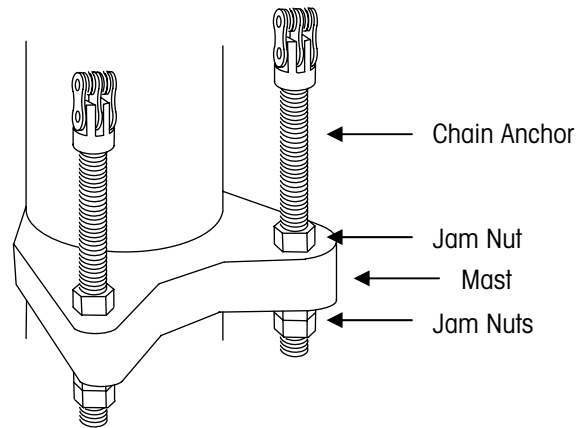

Figure 2-13: Chain Anchor Assembly
14. Remove the lower nut from each chain anchor and insert the anchor into the hole in the mast, below and behind the chain pulleys. Place the lower nut on the threaded anchor and tighten it until both it and the upper nut are tight against the mast (see Figure 2-13). You will need to adjust the anchors later, so do not tighten the nuts too much. Make sure there is no slack in the chains, so that the carriage does not drop when you remove the sling.